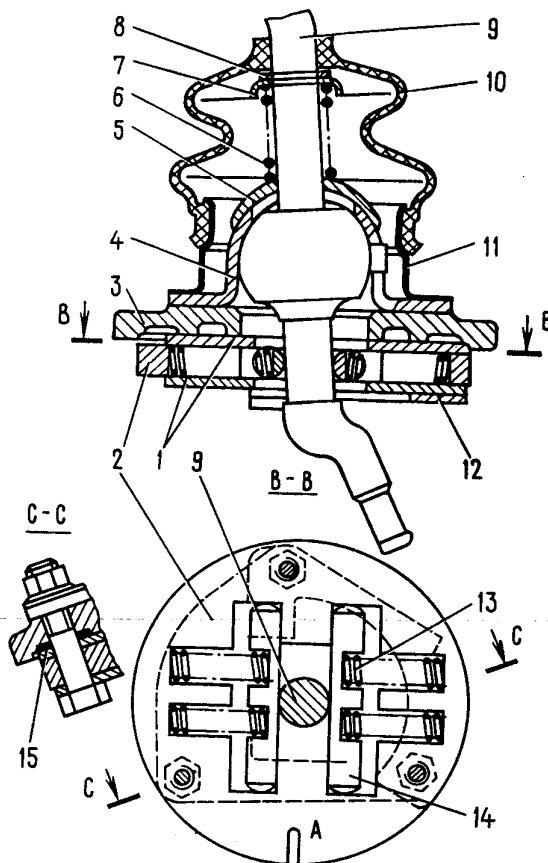

Fig. 3-37. Gearshift Mechanism:
- remove boot 10 (Fig. 3-37), lockring 8 and thrust ring 7, the spring and spherical washer 5 from the gearshift lever;